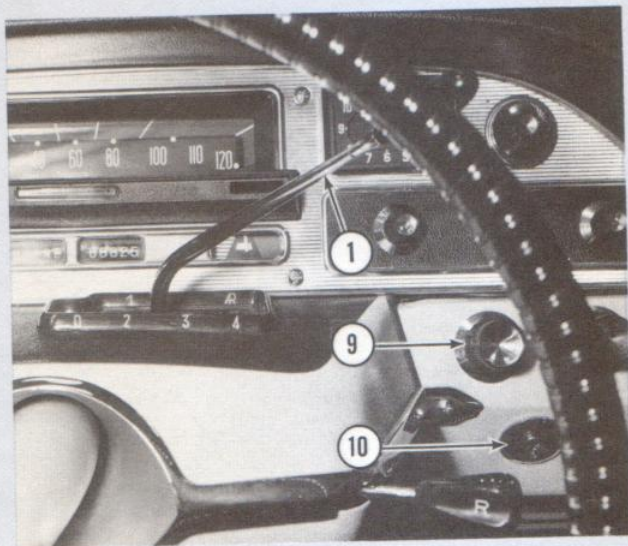
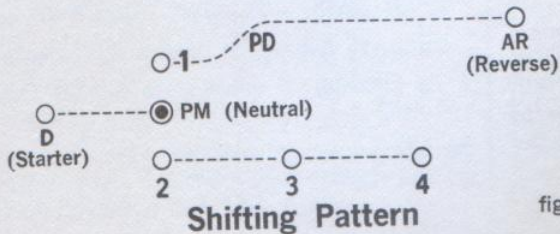
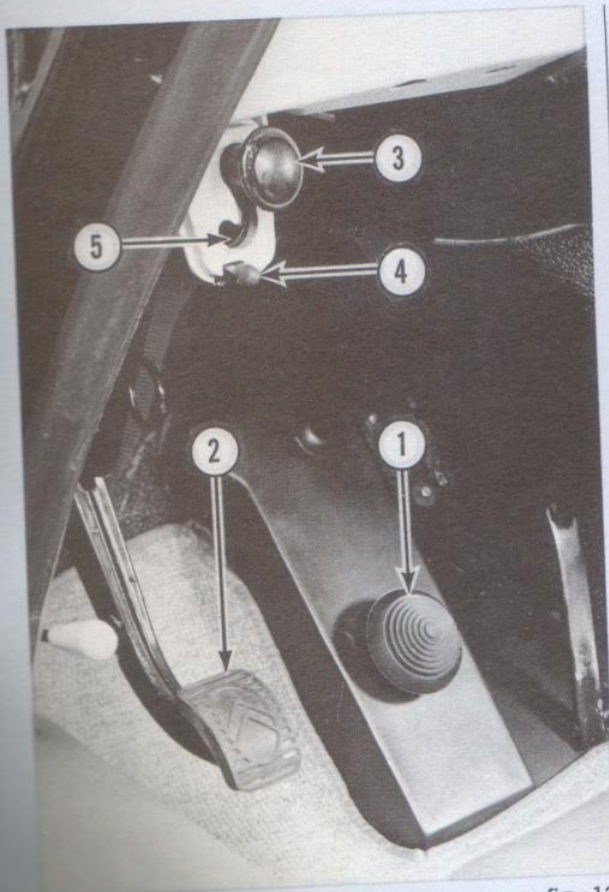

fig. 8
fig. 9
fig. 12
**When the engine is warm:** Press the accelerator pedal all the way down. Do not use the choke control. Start the engine by moving the gear selector lever to the "D" position fig. 9. If the engine does not start immediately, wait a few seconds, then repeat the operation.
**When the engine is cold:** Pull the choke control 9 (fig. 8) to full choke position (all the way out). Depress the brake pedal 1 fig. 12 with the right foot. Move the gear selector lever 1 toward "D" fig. 9 as far as it will go. Hold it in this position until the engine starts running. If the engine does not start immediately, wait a few seconds and repeat the operation. Do not release the brake until the engine has started.
sition fig. 9. The shifting pattern is indicated on a rubber plate permanently attached to the dash at the base of the selector lever. The lever can be moved through either one of the three parallel lines shown in the diagram fig. 9. It can also be moved forward from the neutral (PM) position to 1st gear (1) and rearward from 1st gear to 2nd gear through neutral (PM). The 1st and reverse (AR) gears are in the line furthest from the driver. Second, third and fourth gears are in the line nearest to the driver. To shift from 1st to reverse, push the lever toward the windshield, and pass check-point (PD) before moving it completely to the right, as shown on fig. 9.
## DS hydraulic shift main brake 1 fig. 12
## emergency brake 2 fig. 12